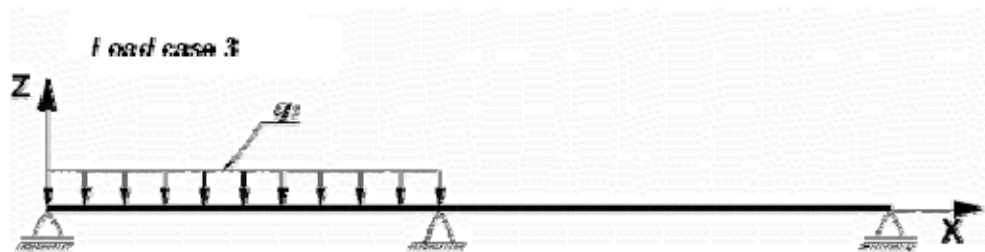

Figure 7.5 Load case No.3 for beam
- load case 3 – uniformly distributed load in the first span  $q_3 = 0.87 \text{ t/m}$  (see Figure 7.5);